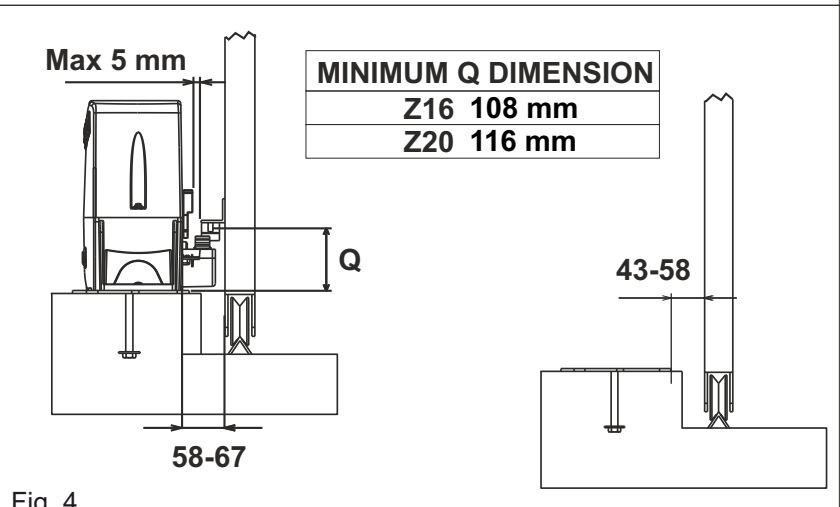
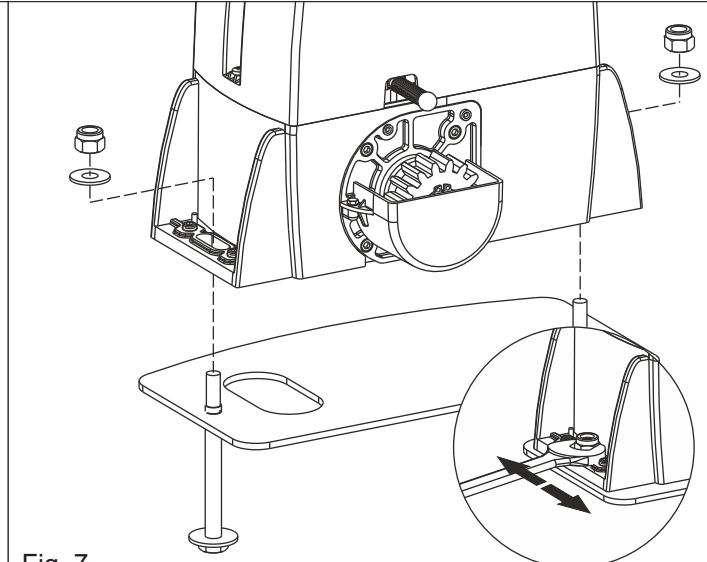

Fig. 4
Fig. 7
2.3. Before concreting the plate, make sure that it is perfectly levelled and that the distance of 58-67 mm as shown in Fig. 4 is respected
4.2. Fix the gear motor to the foundation plate using the 2 included nuts, adjusting the side position (Fig. 7) so to respect the shown quota in Fig. 4